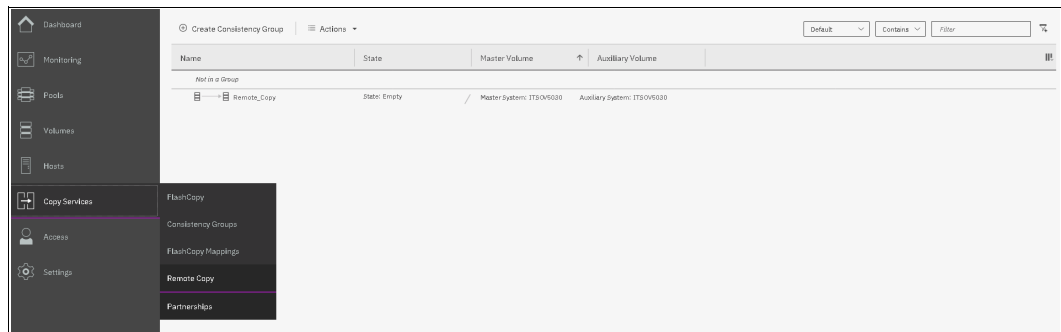

Figure 10-80 Partnerships panel
- ▶ The Partnerships panel, as shown in Figure 10-80.